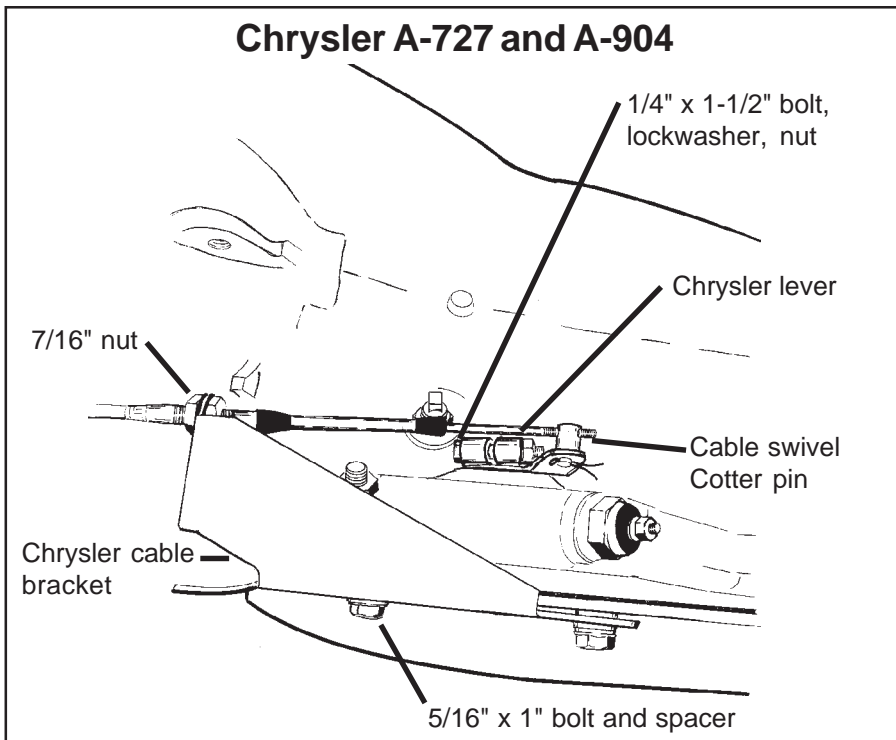

Figure 8
STEP 21. If you have not already done so, loosen the pinch bolt on the throttle lever on the transmission. This is the lever on the small diameter shaft. Pry the lever off with a screwdriver and allow the linkage to hang free. Remove and discard the stock shift lever and the stock shift linkage. Install the **B&M** selector lever in position and tighten the pinch bolt securely (See Figure 8). Make sure the lever is not pushed down so far as to touching the transmission case. This will cause the lever to bind on the case. The lever should travel smoothly from front to back with a positive click in each gear position. Install the stock throttle lever in position on the small diameter shaft as removed and tighten the pinch bolt securely. The throttle lever must operate smoothly.
STEP 22. Remove the two transmission oil pan bolts directly below the shift lever. Install the cable bracket in position with the two spacers between the pan and the bracket (See Figure 8). (If your transmission is equipped with a cast aluminum oil pan these spacers can be omitted.) Install the two 5/16-18 x 1.00" pan bolts supplied and tighten to 12-13 lb.ft. Do not over-tighten as this can damage the pan gasket.